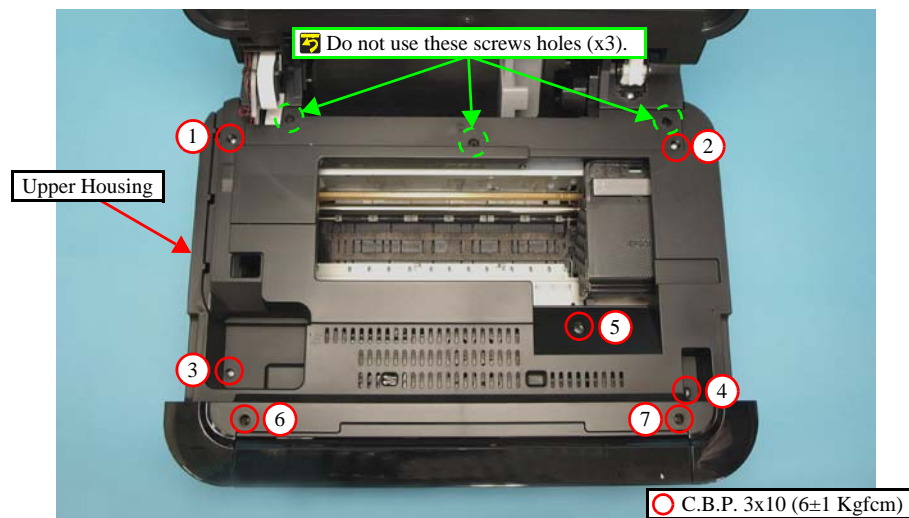

Figure 4-13. Removing the Upper Housing (3)
- When installing the Upper Housing, do not use the screw holes (x3) on the rear side as shown in Fig. 4-13.
- When installing the Upper Housing, tighten the screws in the order given in Fig. 4-13.